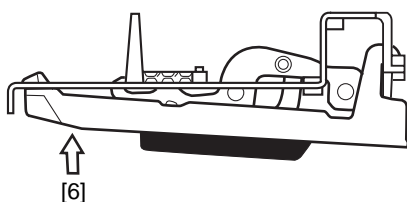

Fig.13
- 14-4 Place down on the white key in the direction marked [6] shown in figure 13.